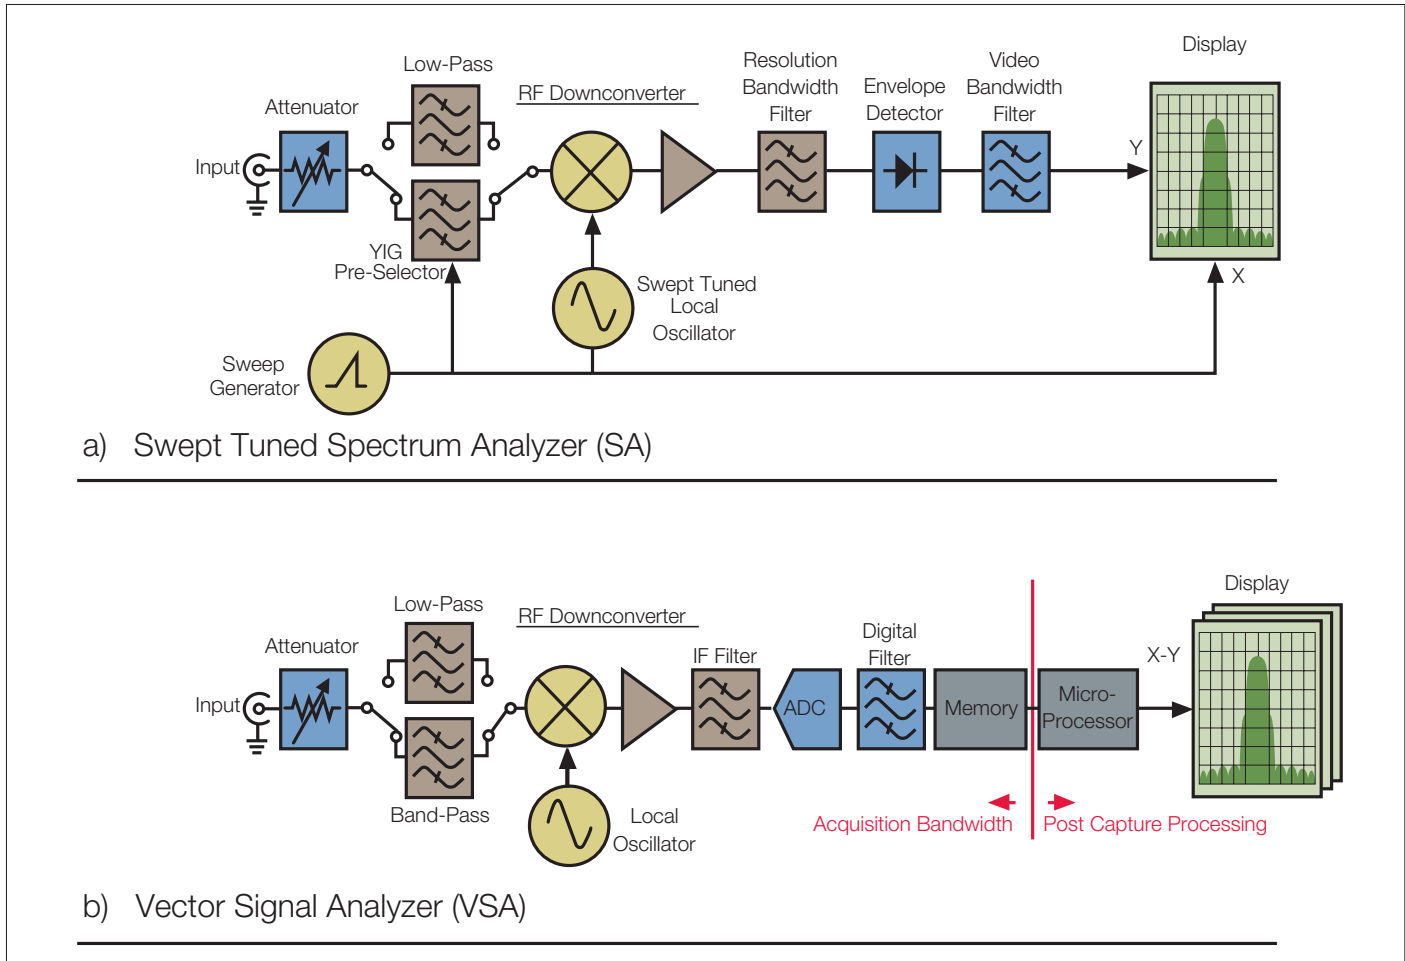

Figure 7. Overview of Spectrum Analyzer Architectures: (a) Swept Tuned Spectrum Analyzer; (b) Vector Signal Analyzer.
A simplified block diagram of a traditional swept spectrum analyzer is shown in Figure 7(a). The swept tuned, superheterodyne spectrum analyzer (SA) is the traditional architecture that enabled engineers to make frequency domain measurements several decades ago. Current generation SAs include digital elements such as ADCs, DSPs, and microprocessors. However, the basic swept approach remains largely the same. The SA makes power vs. frequency measurements by downconverting the signal
A Vector Signal Analyzer, VSA, architecture is shown in Figure 7(b). The VSA represents a more modern spectrum analyzer architecture in which the local oscillator is stepped, rather than swept. The resultant signal is filtered and then digitized. This results in a band-limited time domain signal that can be converted from the time domain to the frequency domain through the use of a DFT (Discrete Fourier Transform).